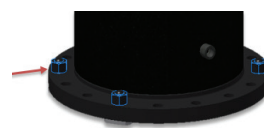

Figure D-17
**D1.24)** Before lifting Insertion housing onto the 16" Temporary gate valve, FIRMLY tighten packing nut thumb screw and unscrew the four 1"–8 nuts holding the alignment plate gauge (see Figure D-17).